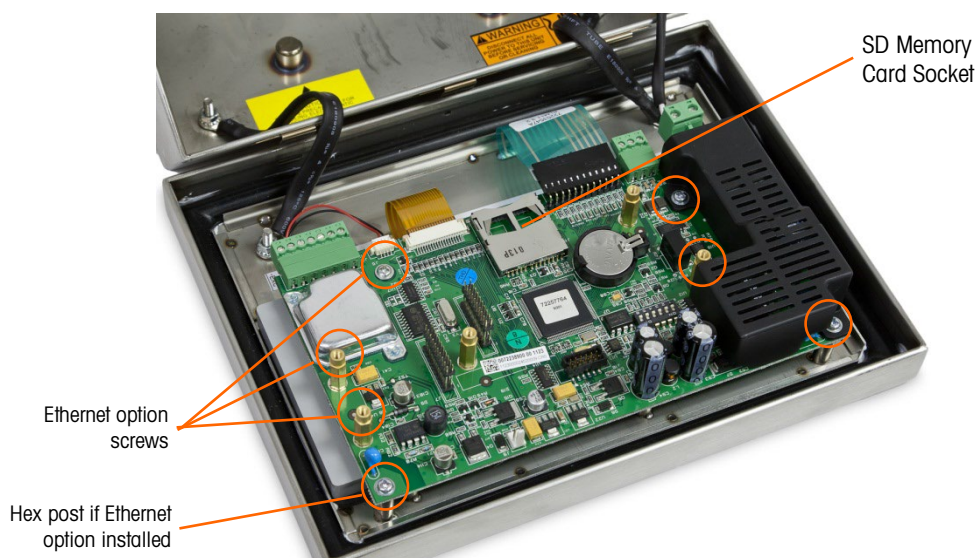

Figure 5-13: Mounting Screws for Main Board, Analog Version
4. Unscrew and remove the four screws holding the main board to the enclosure. Their locations are circled in Figure 5-13. In the case that the Ethernet option was installed, one screw will be replaced with a hex post stand-off. Use a 6mm nut driver or a straight blade screwdriver to remove the hex post stand-off from the location noted.
6. If an SD memory card is installed, press in to loosen the card from the socket then remove the card and retain the card to be installed into the replacement main board. Refer to Figure 5-9 or Figure 5-13 for location of SD Memory card slot.
2. Position the main board over the four screw holes in the terminal enclosure identified in Figure 5-13.
3. Install the four screws. Note that if the Ethernet option is to be used, one of the screws is replaced with a hex post stand-off. Refer to Figure 5-13 for the location of the hex post stand-off.